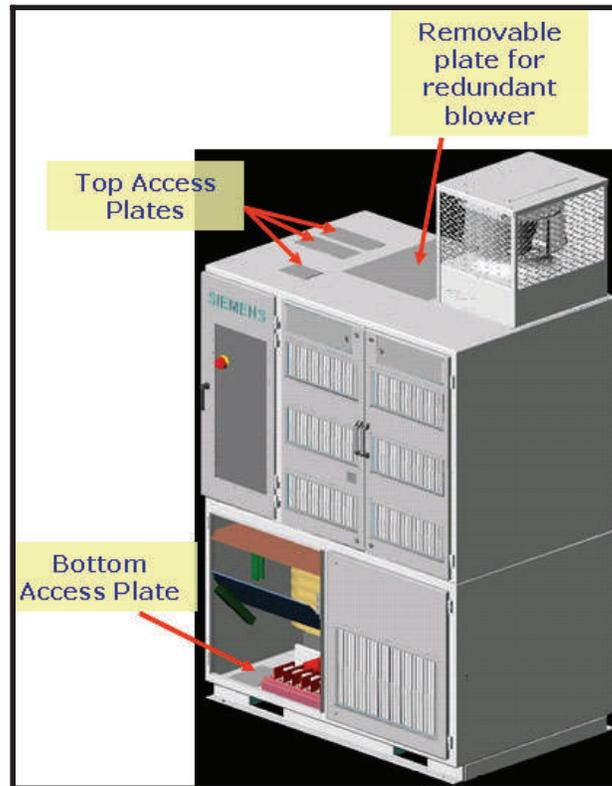

Figure 1-1: GenIV Enclosure (4160V Output, 200-1100 Hp)
The GenIV core enclosure is Nema 1 Ventilated (IP 31 degree of protection) and is provided with top and bottom cable access plates (see Figure 1-1). The doors are hinged and mechanical key interlock provisions are provided.
- The remainder of the GenIV drive (refer to Figure 1-1).